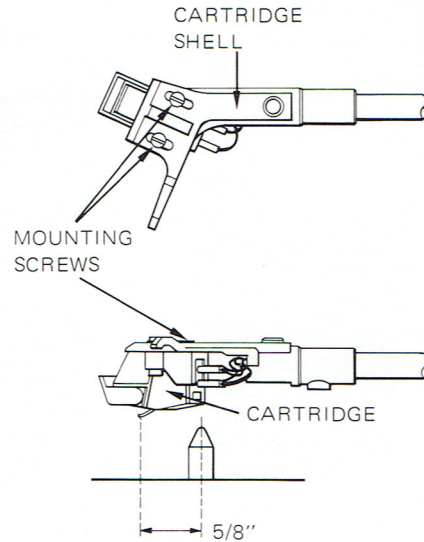

Fig. 1
3. Move the tone arm over the turntable shaft and move the cartridge back and forth to obtain a space of  $5/8''$  between turntable shaft and stylus tip (Fig. 1). Fix cartridge in this location by **TIGHTENING** the mounting screws.